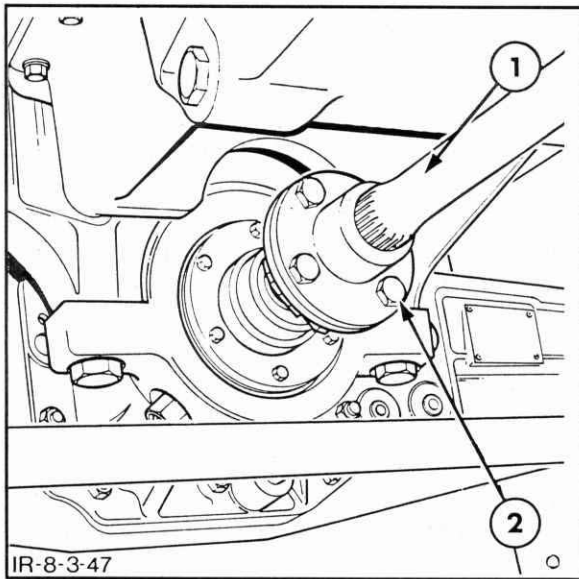

Figure 7-110
3. Disconnect the drive shaft to axle pinion flange bolts, Figure 7-110.